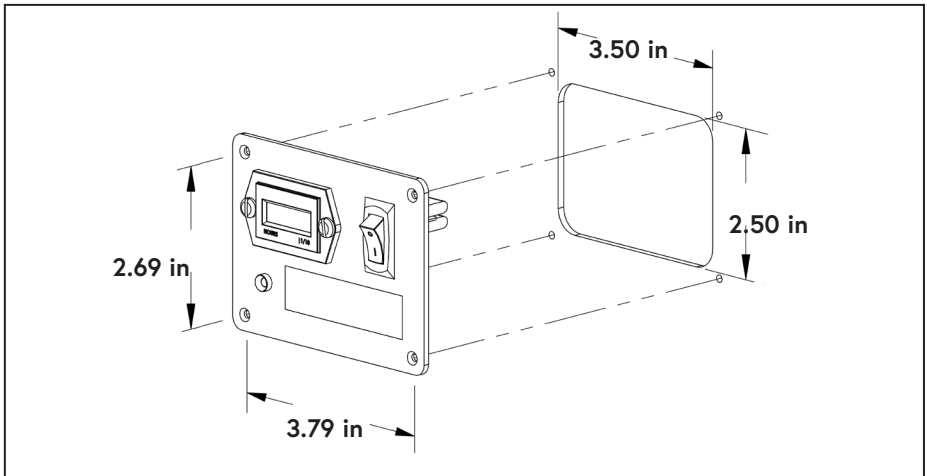

Figure 50 — Interface Panel mounting dimensions
- Install the Interface Panel in a suitable location (Figure 50).